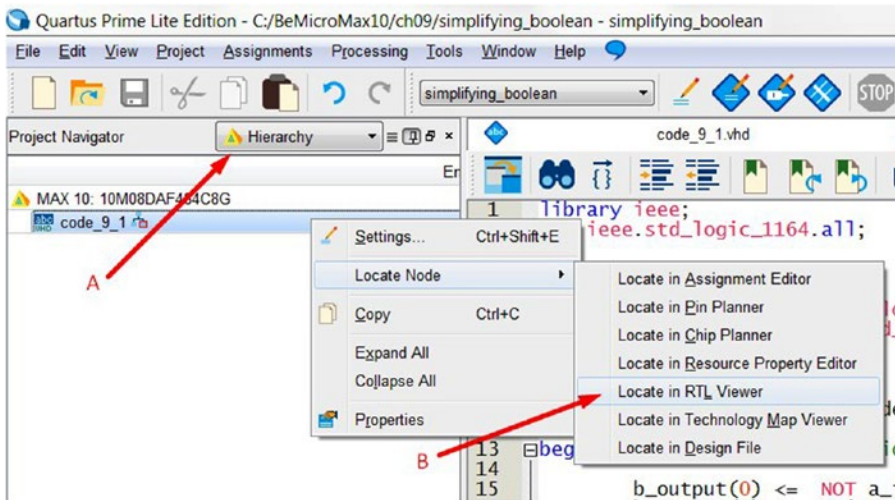

Figure 9-2. Locate in RTL viewer
4. After the compilation is done, switch to **Hierarchy** mode in the Project Navigator (A in Figure 9-2)
5. Right-click the **code_9_1** design, click **Locate Node**, and select **Locate in RTL Viewer** (B in Figure 9-2)